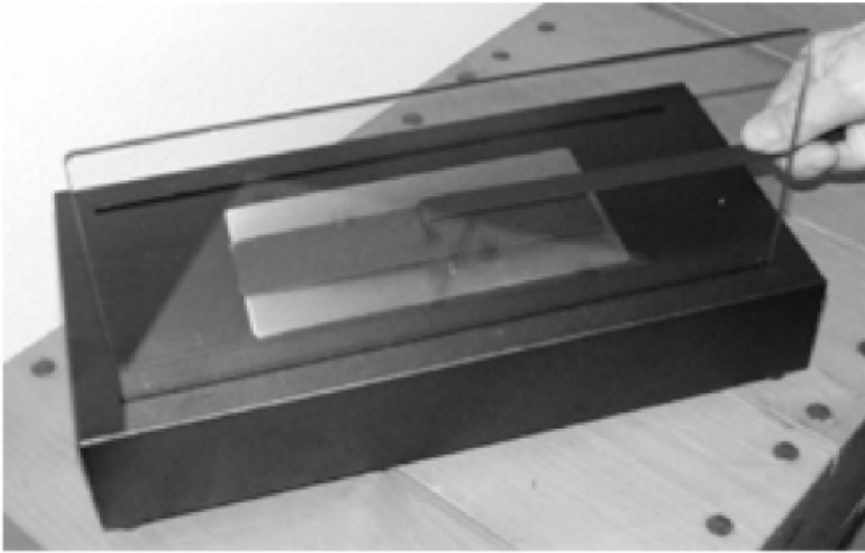

Fig. 6
- Step 2: carefully but firmly press the extinguish tool on the burner. Make sure to press firmly. (Fig. 6)